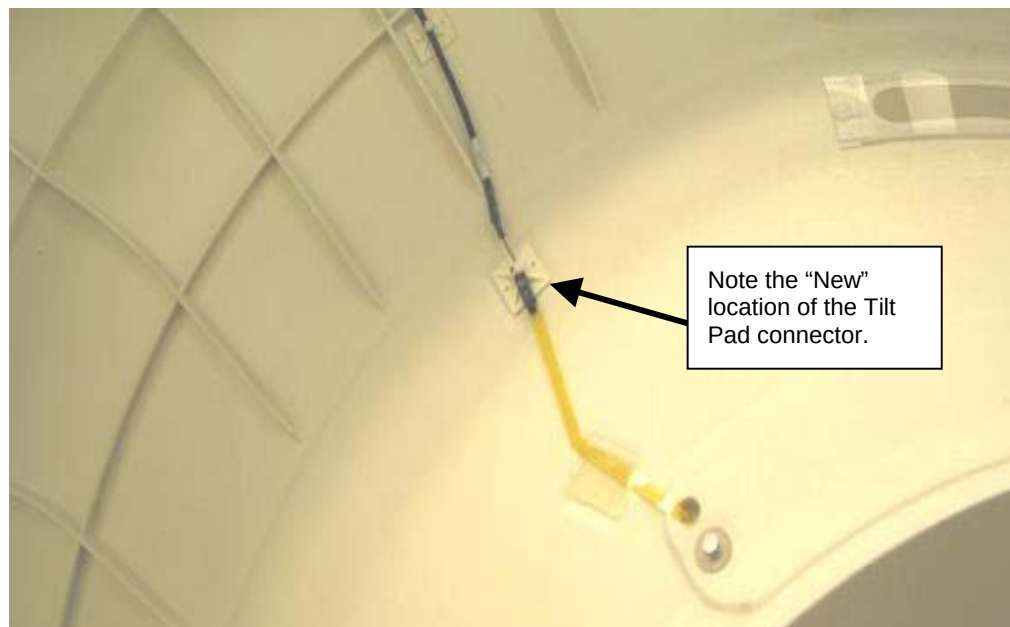
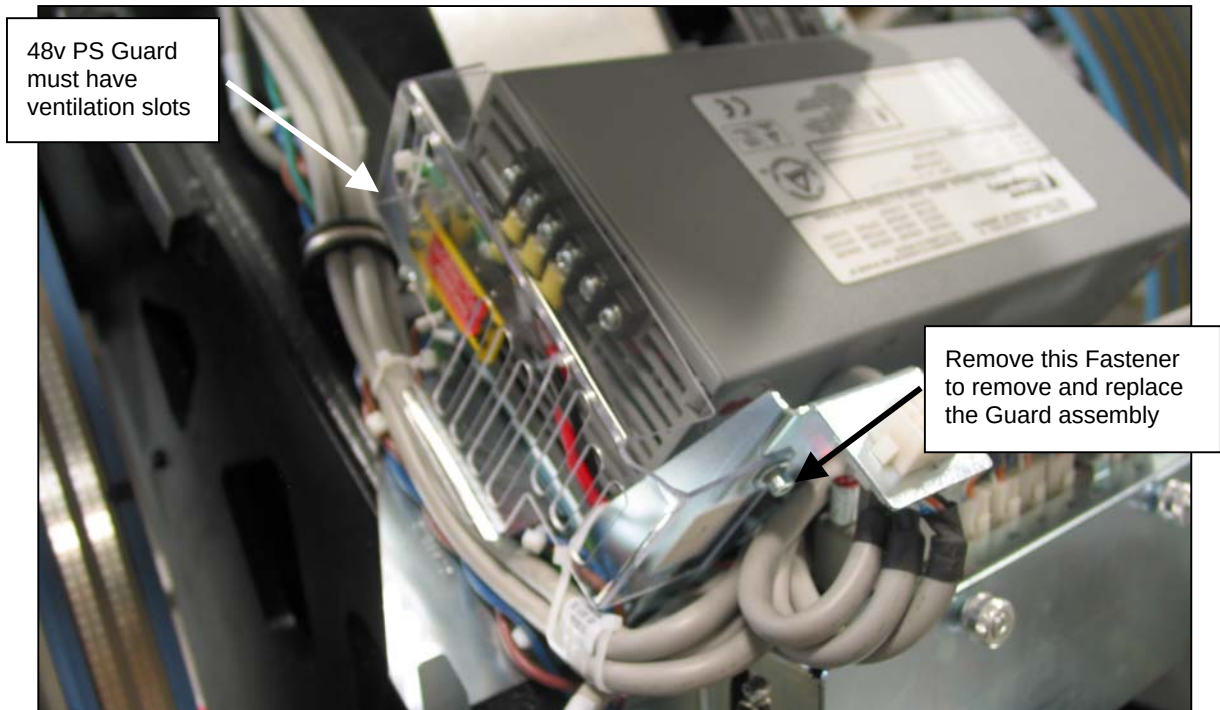

Figure 11 Front Cover Cable Clearance
Figure 12 New Tilt Pad Sensor Harness Routing
11. Ty-rap connector facing up to the 46-208747P2 restraint. See Figure 11.
The 48v Power Supply has a plastic guard that must have ventilation slots as shown in Figure 11. Remove rear gantry cover. If the system has the guard without slots then remove the guard by loosening the screw fastener shown in Figure 12. Replace with new guard supplied in this kit.